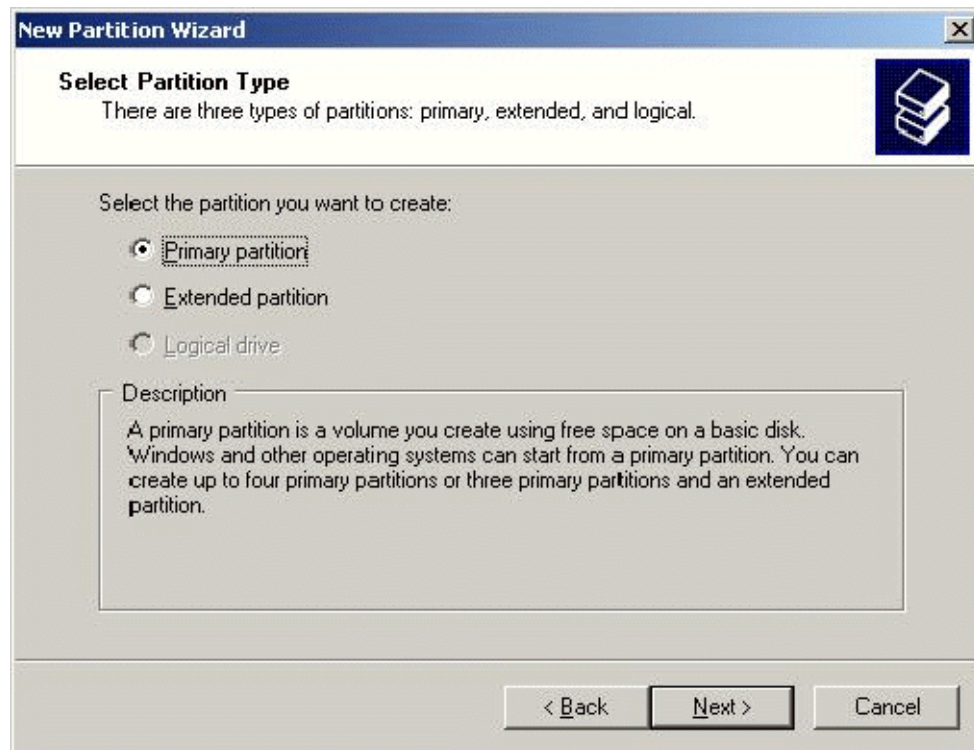

Figure 2-11: New Partition Wizard Panel (Windows 2003)
2. When the Select Partition Type panel appears (Figure 2-11), select the desired type of partition and click **Next**.